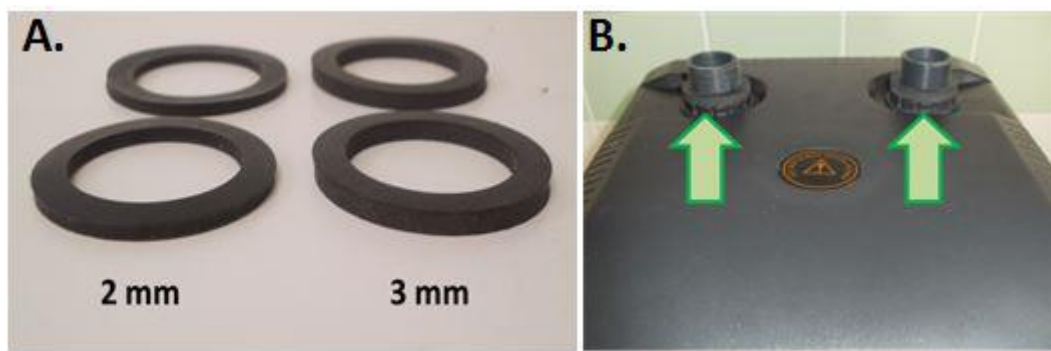

Fig. 9 A) Rubber seals. B) Hailea outlets.
1. Place two circular rubber seals around the outlets on the top of the Hailea water chiller (Fig. 9).